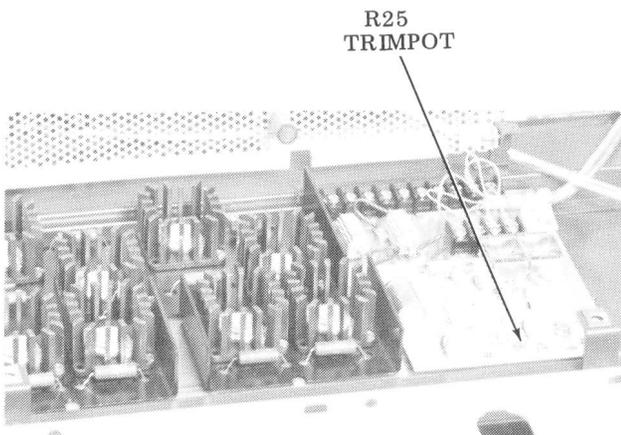

Figure 8 - Page Linearity on MC903
##### 2.21 Page Linearity on MC903 (Figure 8)
- (1) While viewing the left hand margin on the CRT display, the page display line linearity (compare top line to bottom line) should be approximately equal.
- (2) If not, adjust R25 potentiometer on the TP322903 (MC903) circuit board for correct linearity (Figure 8).